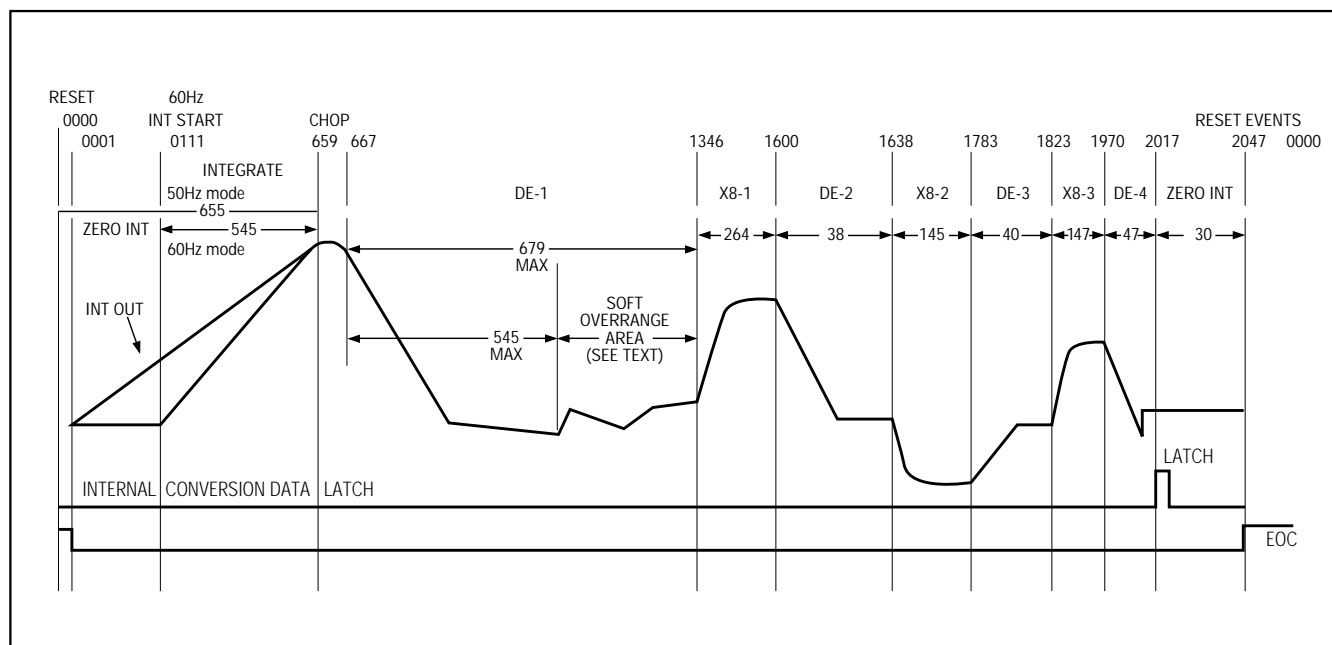

Figure 10. Conversion Timing (Negative Input Shown)
- 2) Poll either the EOC status register bit or the EOC line to determine conversion end and start time for the next conversion. EOC becomes 1 at conversion end at count 0000 of the conversion counter (Figure 10).
The MAX132 has two overrange levels (Figure 10 and Table 4). The first level is a soft overrange that is set by the user. Overage is arbitrarily set at a value, preferably less than the 279,040 (including any zero offset) raw counts soft limit. A nonlinearity step of about 64 counts occurs at raw count 279,040 and again at 330,240 counts.
This process of measuring and accounting for the residue can be repeated for the successively smaller errors remaining after each deintegration. (Deintegration is simply an integration of  $V_{REF}$ , with polarity chosen so the integrator output ramps toward zero.) The MAX132, for example, executes three cycles in which the residue is inverted, multiplied by eight, and deintegrated (Figure 10).
The zero-integrate phase zeros out the integrator to prepare for the next integration (Figure 10). This phase occurs at the beginning and end of each conversion. At power-up, or in the hold mode prior to a conversion, the MAX132 continues to zero integrate until a conversion starts. When a conversion starts in 60Hz mode, another 111 clocks of zero integrate are completed before the beginning of a conversion. In 50Hz mode, only one additional zero integrate is performed before the conversion starts. An additional 20 clocks of zero integrate occur at each conversion end.